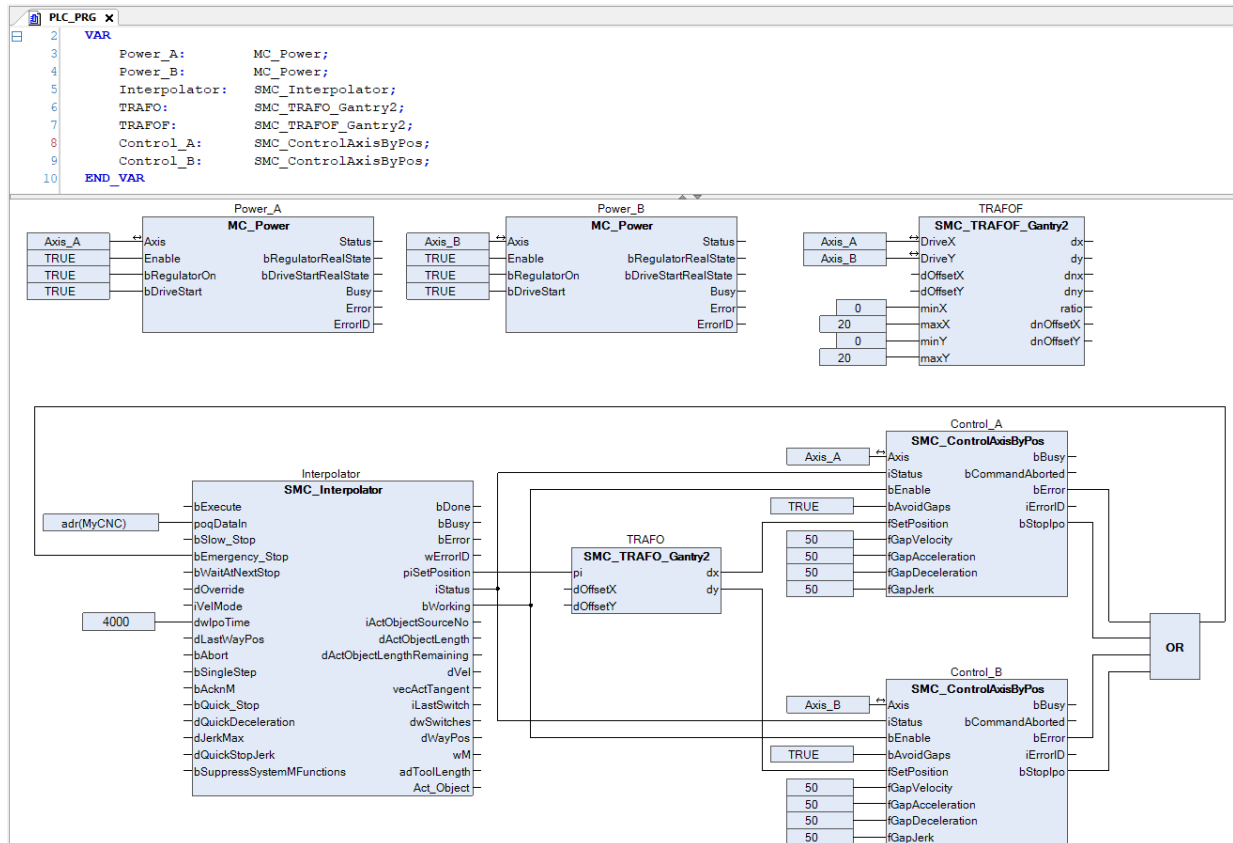

Figure 5.26: Program to execute CNC paths.
The default program for executing a CNC path controlling a 2D gantry type system is shown in Figure 5.26.
- Declare the function block instances and link the blocks as shown in Figure 5.26